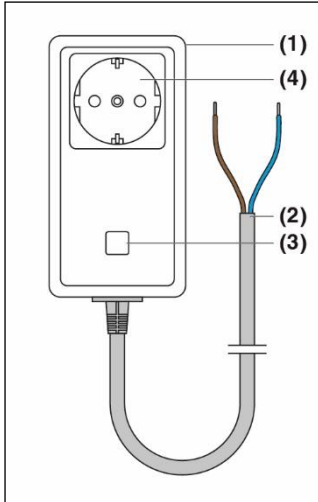

Fig. 1
4.1 Connection of the receiver (Fig. 1 and 2)